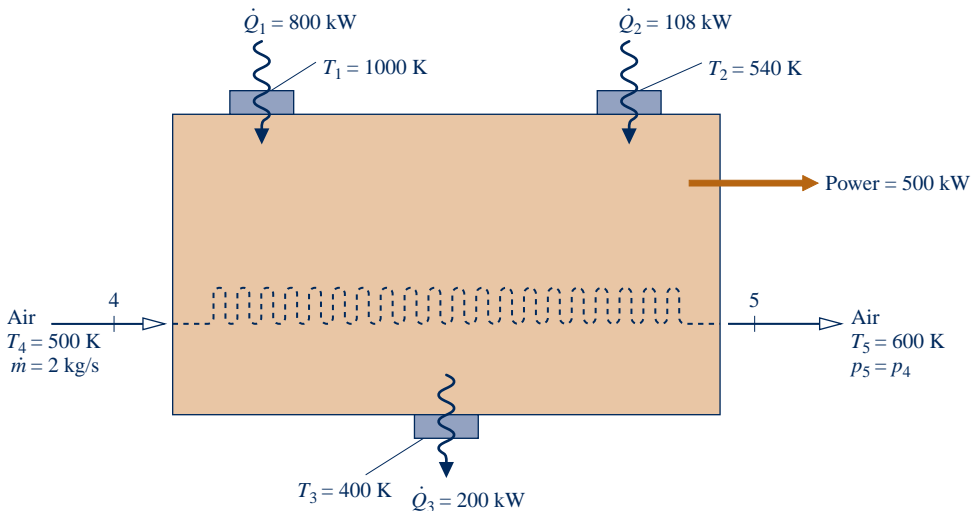

Fig. P6.101
6.101 An inventor has provided the steady-state operating data shown in Fig. P6.101 for a *cogeneration* system producing power and increasing the temperature of a stream of air. The system receives and discharges energy by heat transfer at the rates and temperatures indicated on the figure. All heat transfers are in the directions of the accompanying arrows. The ideal gas model applies to the air. Kinetic and potential energy effects are negligible. Using energy and entropy rate balances, evaluate the thermodynamic performance of the system.